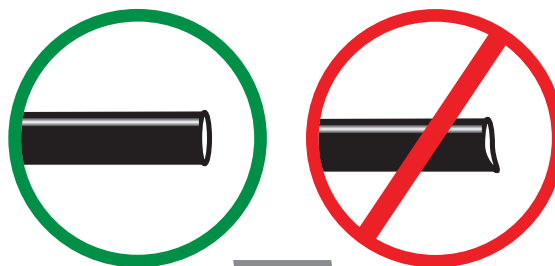

fig. 18
- a. Check the air line connection by deflating the spring and removing the line by pulling the collar against the fitting and pulling firmly on the air line. Trim 1" off the end of the air line. Be sure the cut is clean and square (see Fig. 18). Reinsert the air line into the push-to-connect fitting.
2. If the preceding steps have not resolved the problem, call Air Lift customer service at (800) 248-0892.